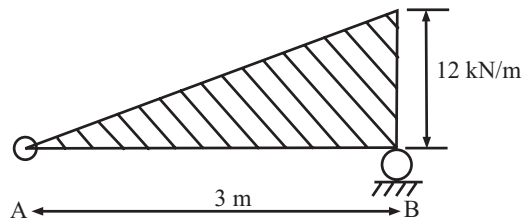

Fig 6
- Q.6.** Figure 6 shows a beam pivoted at A and simply supported at B and carrying a load varying from 0 at A to 12 kN/m at B. Determine the reactions at A and B; and draw the bending moment (BM) diagram. (Dec-02)